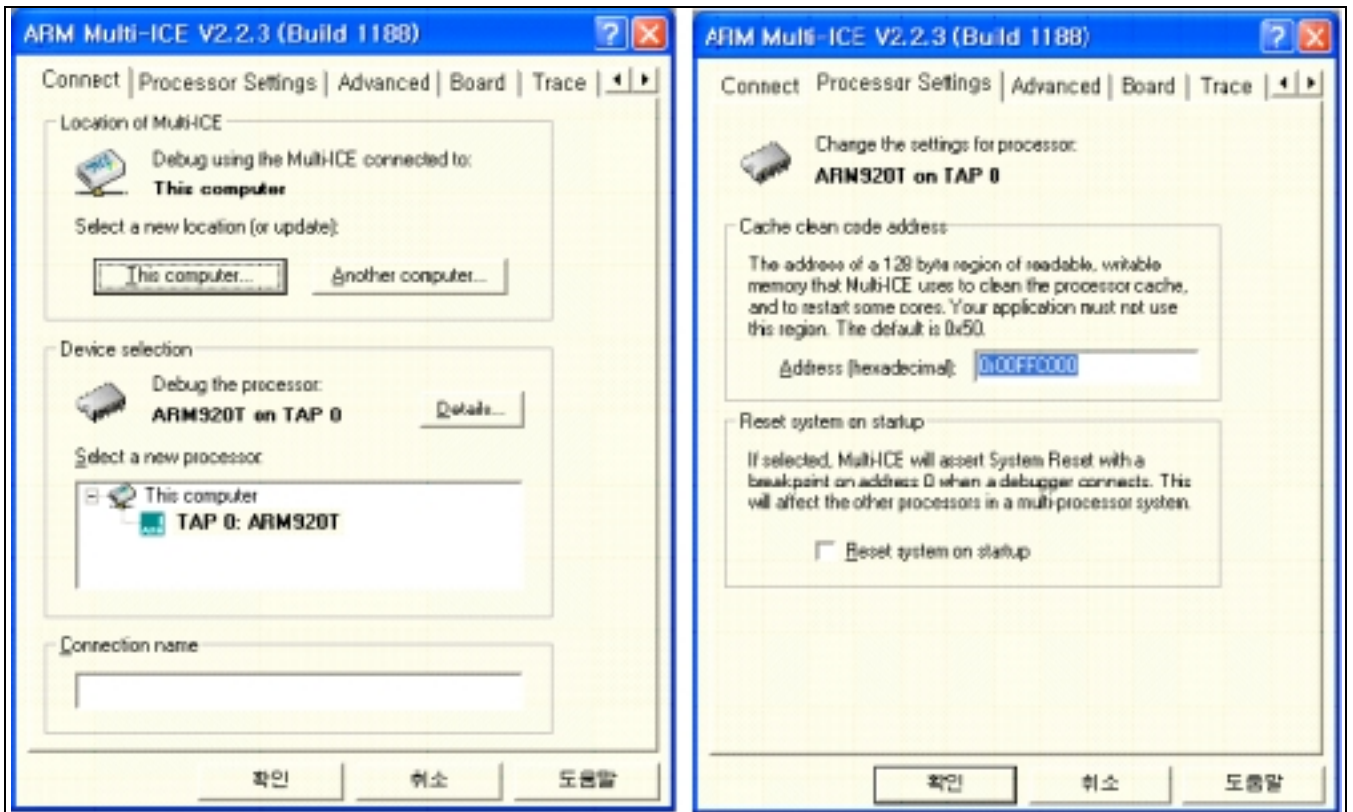

Figure 2-11. ARM Multi-ICE: Connect Page and Processor Settings Page
4. Configure ARM Multi-ICE dialog box (See Figure 2-11).